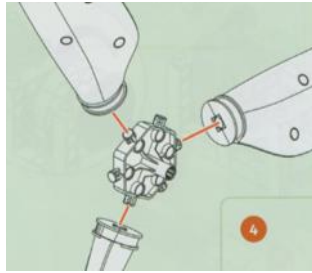

Figure 2: Blade Assembly
Use Figure 2 & 3 for steps 4-6.
4. Place rotor blades on the pins of the rotor hub leaving one pin between each blade, as shown in figure 2.